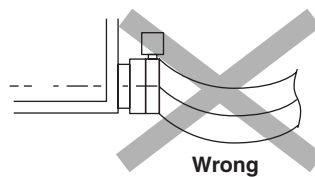

Fig. 24
- No folding of drain hose inside the indoor unit. (Refer to Fig. 24)